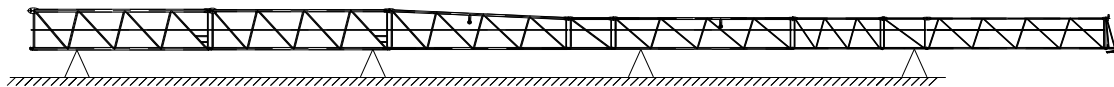

Fig. 4-29 Assembling jib
- 1) Prepare several brackets which's length are about 1.2m near the tower crane, for the jib above 50m shall not be less than 4, and for the jib not more than 50m shall not be less than 3. Each jib is connected by a pin at the upper chord by and two pins at the bottom chords. Assemble jibs except jib I first, refer to Fig. 4-29.